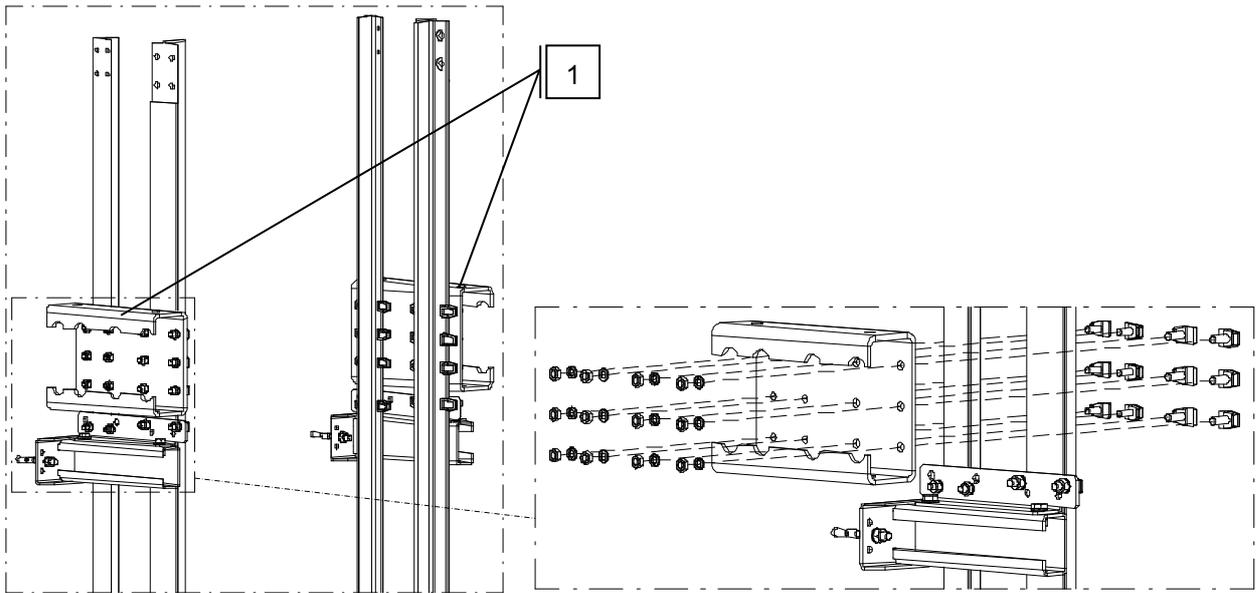

FIGURE 6
Install the machine's support bases (1) – on the guide rails with forged clips (FIGURE 6). On FIGURE (7) IS given the exact position of both bases. The distances a, MLB, b, are given in the accompanying drawings of the lifting platform.